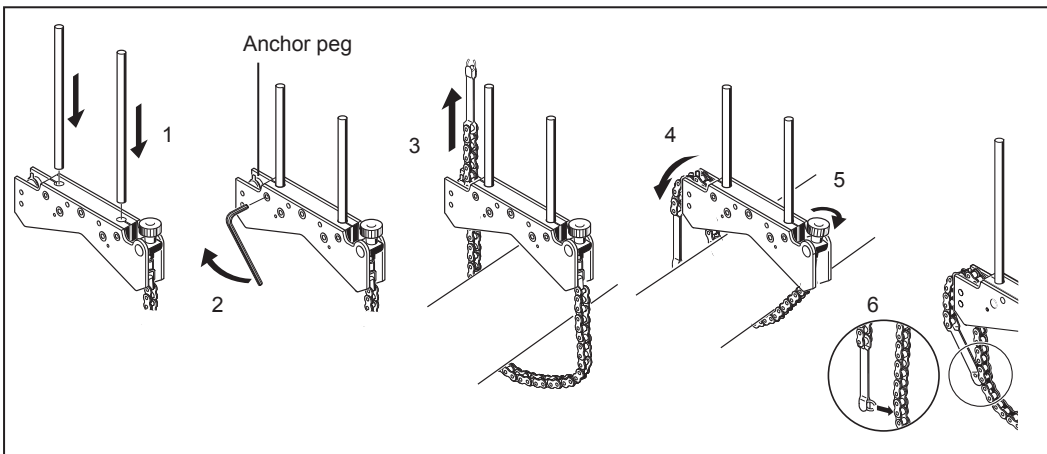

Figure 7-1. Mounting the bracket step-by-step
3. Place the bracket on the shaft or coupling. Wrap the chain around the shaft and feed it through the other side of the bracket: If the shaft is smaller than the width of the bracket frame, insert the chain from the inside of the bracket as shown in Figure 7-1; if the shaft is larger than the bracket width, insert the chain into the frame from the outside.